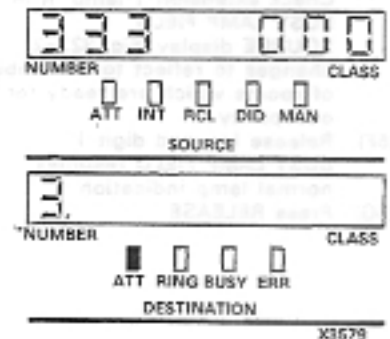

Fig. 323-1
- * DESTINATION display shows room status code 3 (Fig. 323-1)